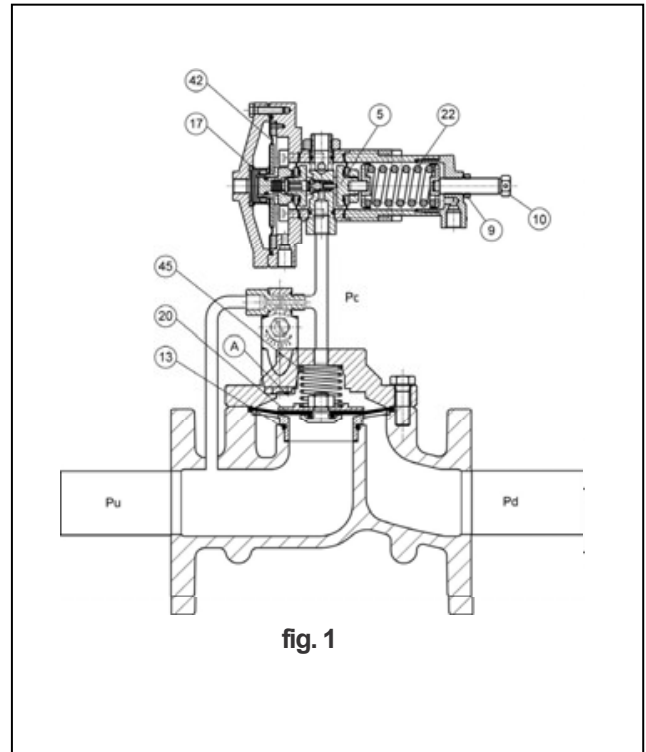

fig. 1
1.2 OPERATION OF THE PRESSURE REGULATOR WITH SERIES 300 PILOT (fig.1)